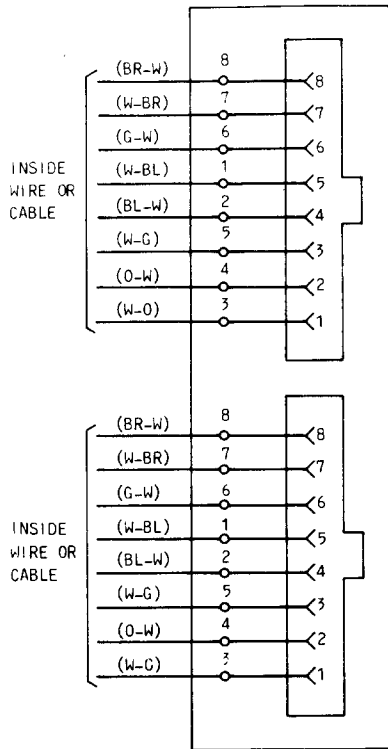

Fig. 10—104A and 106AFD Connecting Block, Schematic
2.10 The 104A connecting block is intended to be surface-mounted on a wall, baseboard, or other flat surface, using No. 6 screws, adhesive strips (D-181126 Kit of Parts, ordered separately), or magnets (D-180880 Kit of Parts, ordered separately). It will accommodate surface-dressed or inside wall wiring and is wired as shown in Fig. 10 for two separate telephone sets. Interconnection of connectors between the two quick-connect fields (Fig. 11) is provided by allowing sufficient extra continuous inside wire length (approximately 2 inches) for bridging. The jack positions are numbered 1 and 2 on the connecting block cover, and a writing surface is provided inside the cover so that specific wiring can be recorded for future reference. Mounting orientation is as described for the 103A (paragraph 2.08).
cal duplex outlet faceplates. Wiring for the 106AFD is shown in Fig. 10 and bridging in Fig. 11.♦